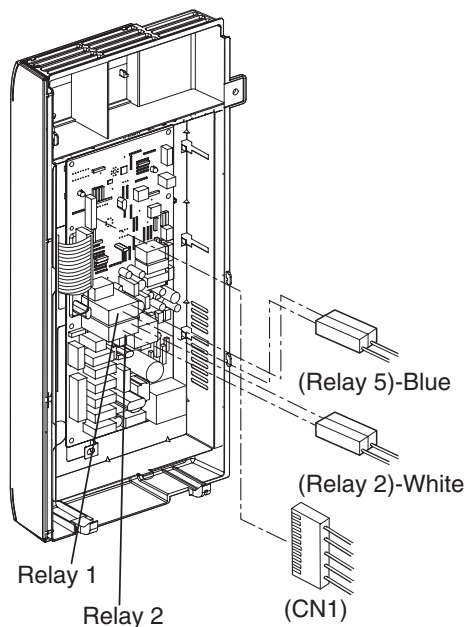

Figure 1
A. REMOVING POWER AND CONTROL CIRCUIT BOARD (Figures 1, 2 and, 3)
- (1) Remove the a screw securing the control panel assembly to the oven cavity.
- (2) Remove the control panel by pushing it upward.
- (3) Remove the connectors (cn1,cn3,cn5) and wire leads (RY1,RY2) from the circuit board.